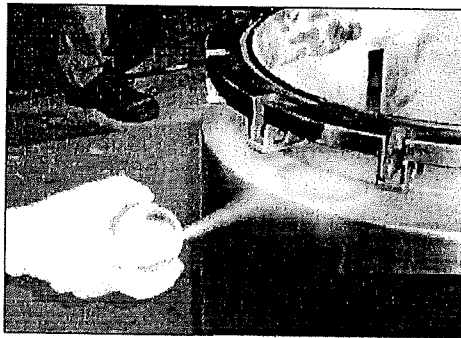

Figure 1
3. [a] A non destructive method is depicted in Figure 1.